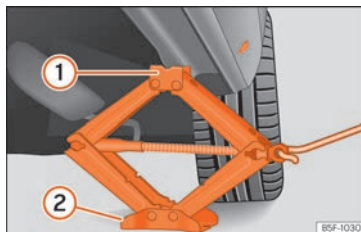

Fig. 77 Fitting the jack.
• Turn the jack* crank handle, located below the strut support point, to raise it until the tab ① » » Fig. 77 is below the housing provided.
• Align the jack* so that tab ① "grips" onto the housing provided on the strut and the mobile base ② is resting on the ground. The base plate ② should fall vertically with respect to the support point ①.